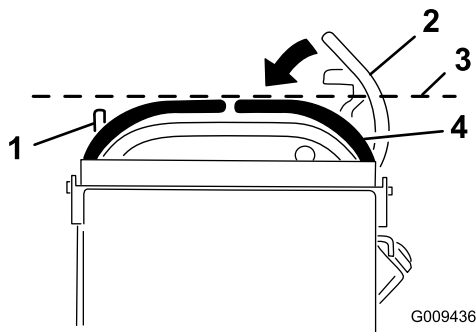

Figure 71
3. Push the right motion control lever down out of locked neutral position (Figure 71).
4. Check if it aligns horizontally with the left motion control lever (Figure 71).